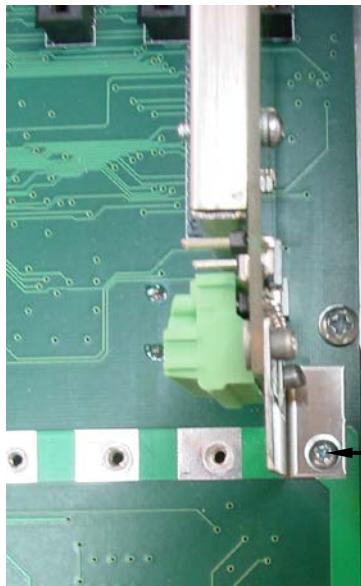

Figure No. 12
4. Remove the screw securing the 825 Scale Input Board (825-SIB) to the main PC board, and then lift the 825-SIB straight up to remove it from the base enclosure. See Figure No. 12.